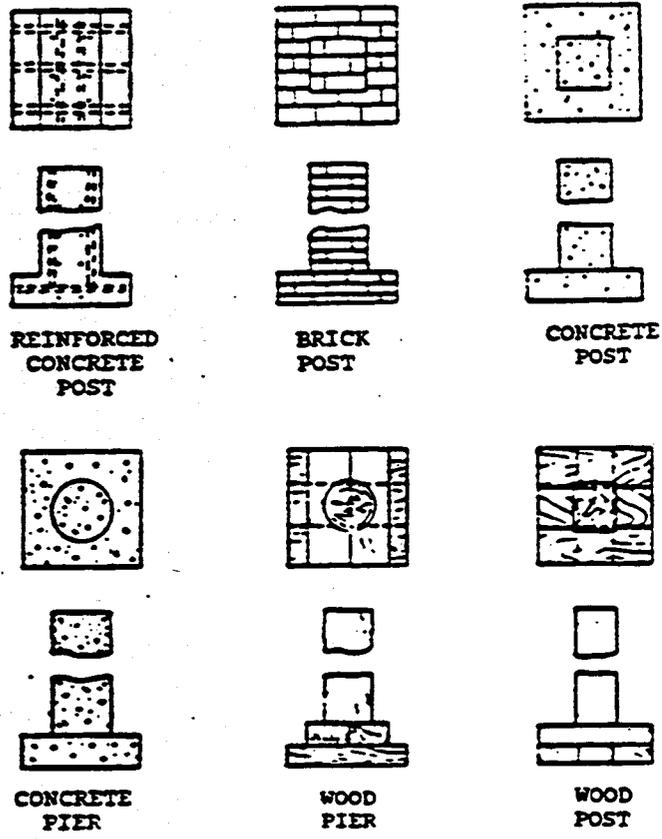
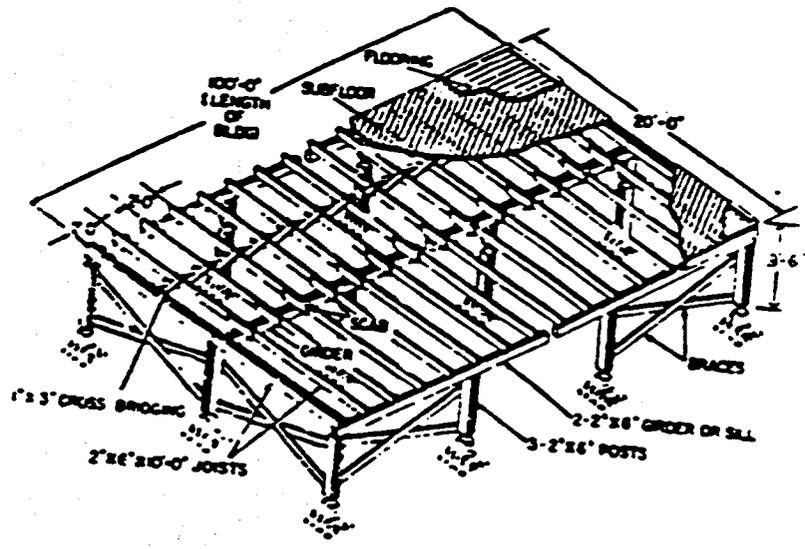

Fig 2-8. Types of columns.
Fig 2-9. Braced column.
c. Column foundations. Column, post, or pier foundations save time and labor. They may be constructed of masonry, steel, or wood. The columns are spaced according to the weight to be carried. In most cases, the spacing is from 6 to 10 feet. Figure 2-8 shows some of the different types of columns with different types of footings. Wood columns are used in most cases since they are installed with the least time and labor. When wood columns are 3 feet or more above the ground, braces are required (fig 2-9).